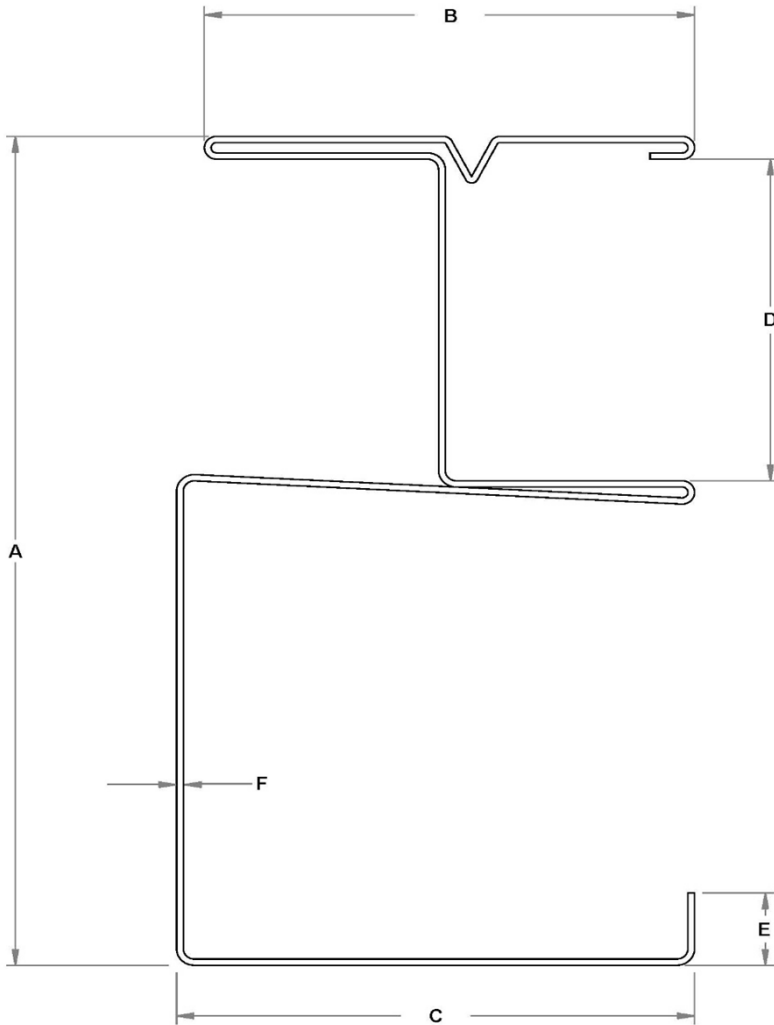

Figure 7 - Nominal C-H Stud Dimension Locations
C-H Studs: Based on stud size shown in Table 1 and Figure 7 of this **AER**.
1. Refer to Figure 7 for location of tabulated dimensions.